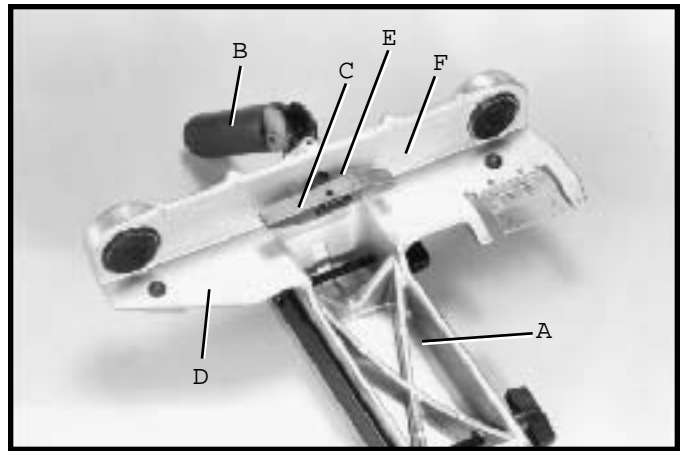

Fig. 65
1 Turn fence body (A) Fig. 65, upside down and lay it on a table or bench. Push handle (B) in against fence body. Make certain the surface (C) of clamp bracket is parallel to the face (D) of the fence body, and that the inside edge (E) of the clamp bracket is parallel to surface (F) of the fence body. Turn handle (B) Fig. 65, if necessary.